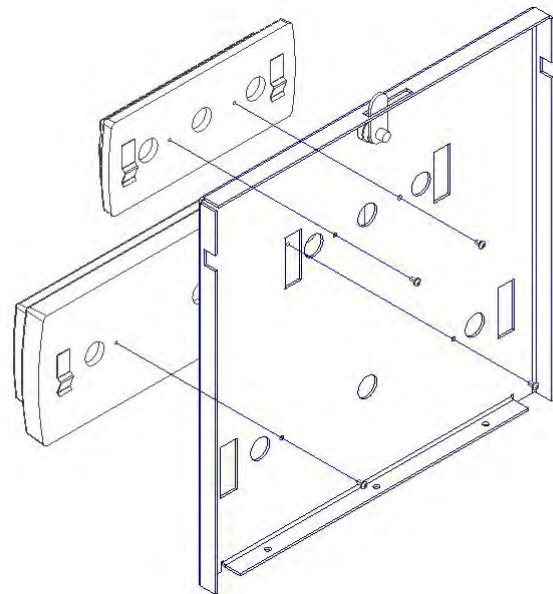

Figure 2
Step 1 – Install the access point so that the door is to the left when the access point is upright. Securely fasten the *Cisco AIR-AP-BRACKET-1* to the mounting holes on the back wall of the enclosure using (4) # 8-32 screws. Attach the screws to the **outer** hole pattern. Attach the Access Point to the mounting plate. Proceed to Step 3 (Figure 2).
Step 2 – Install Cisco 2.4 GHz and 5 GHz antennas by inserting the connectors and cables through the .700" dia. holes in the cover. The antennas should be installed so that the open ends of the T-Bar clips on the antennas are facing toward the hinge of the enclosure. After the cables have been pulled through the door, use the #4-40 screws to connect the antennas (Figure 2).